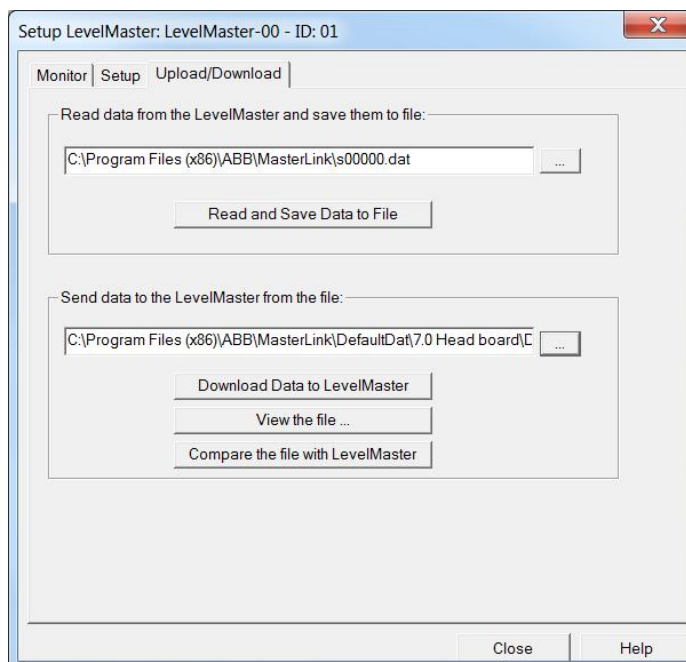

Figure 63: LevelMaster Upload/Download tab
- Under Send Data to the LevelMaster from file, verify that the file path displays correctly (Figure 63).